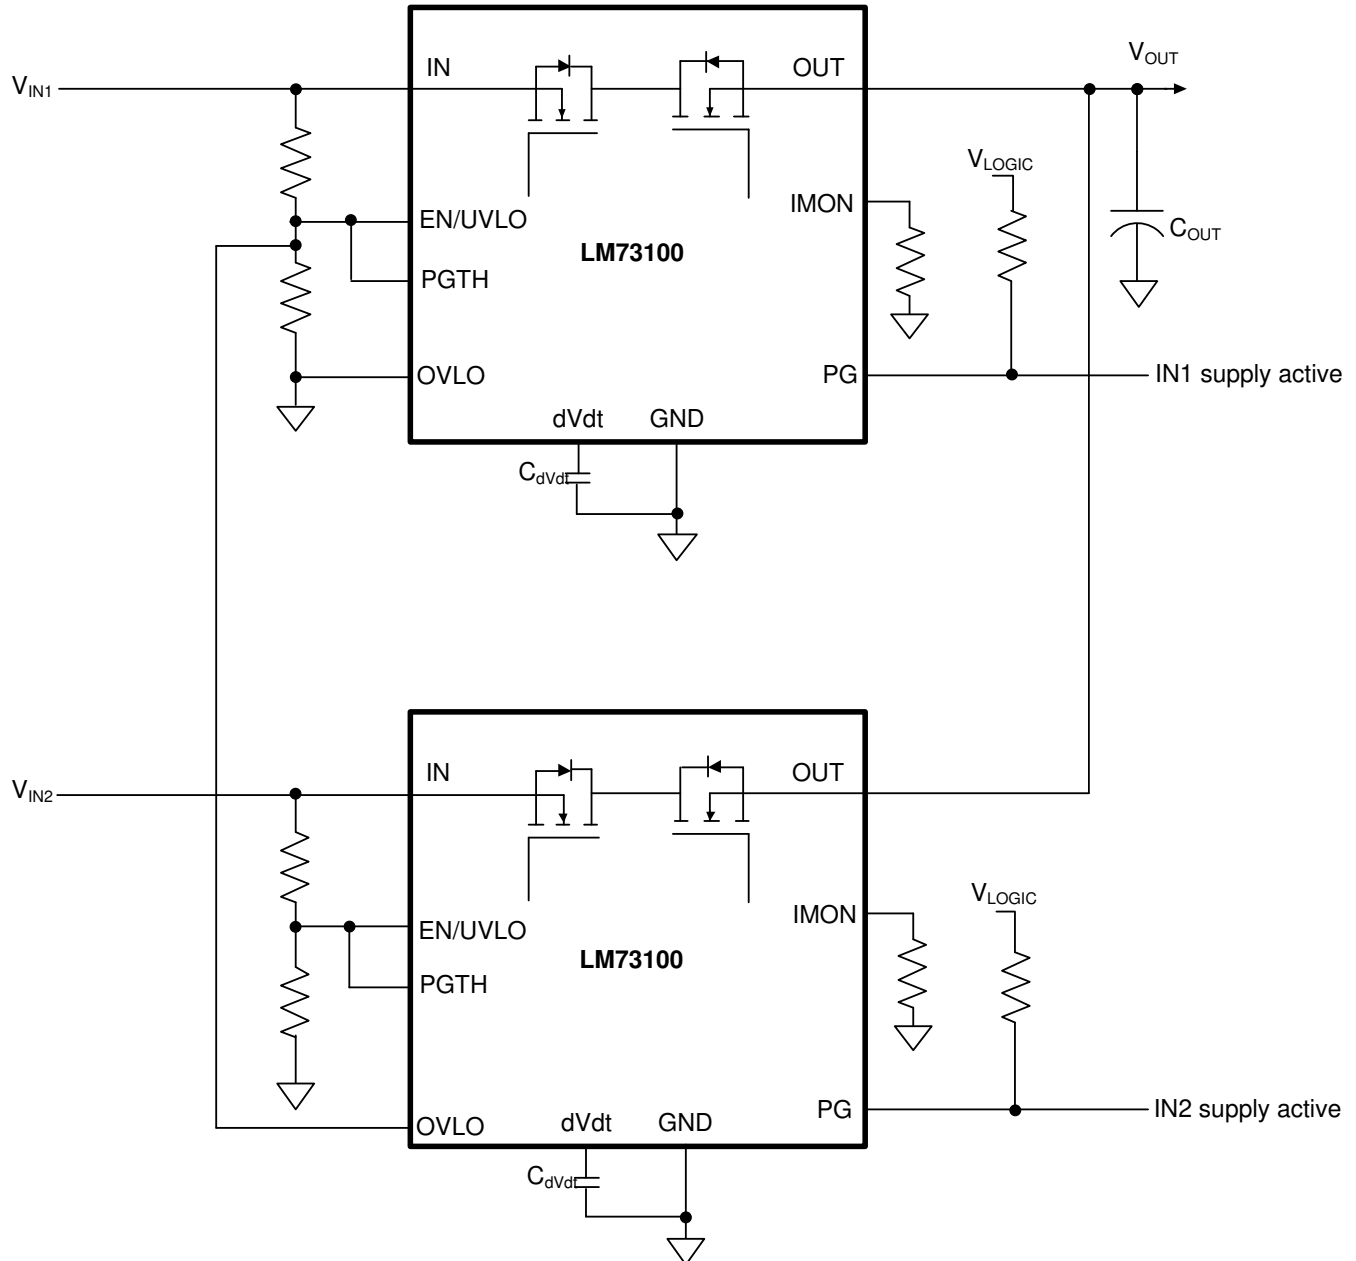

图 8-10. Two Devices, Priority Power MUX Configuration
**图 8-10** below shows a typical priority power multiplexing implementation using LM73100 devices. When the primary (priority) power source (IN1) is present and above the undervoltage (UVLO) threshold, the primary path device path powers the OUT bus irrespective of whether auxiliary supply voltage condition. The device in auxiliary path is held in off condition by forcing its OVLO pin to high using the EN/UVLO signal of the primary path device.